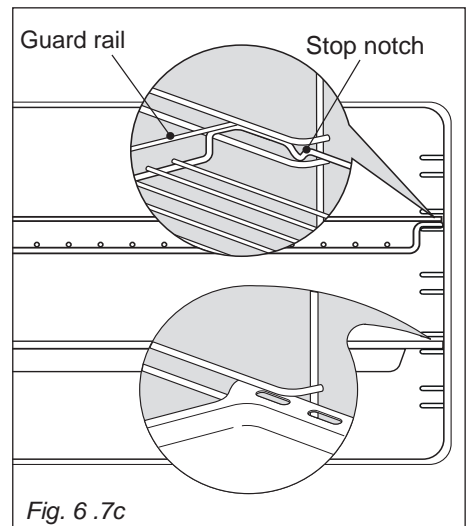

Fig. 6.7c
- Slide in, on the guides, the shelf and the tray (fig. 6.7c).